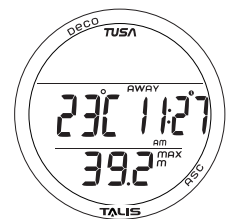

Fig. 84 - GAUG DIVE ALT
**GAUG Dive ALT** information includes (Fig. 84):